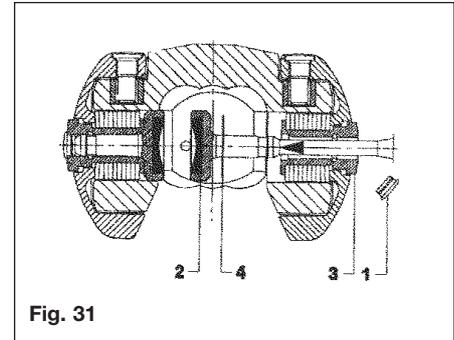

Fig. 31
2. Remove protective caps (Fig. 31/Item 1) with the aid of a small screwdriver.
3. Press worn out pad inwards and remove (use punch and hammer) (Fig. 31/2)
4. Insert new friction pad from below (after first re-inserting shim washers if they were present) and press in as far as it will go (Fig. 31/Item 4 & Fig. 32).